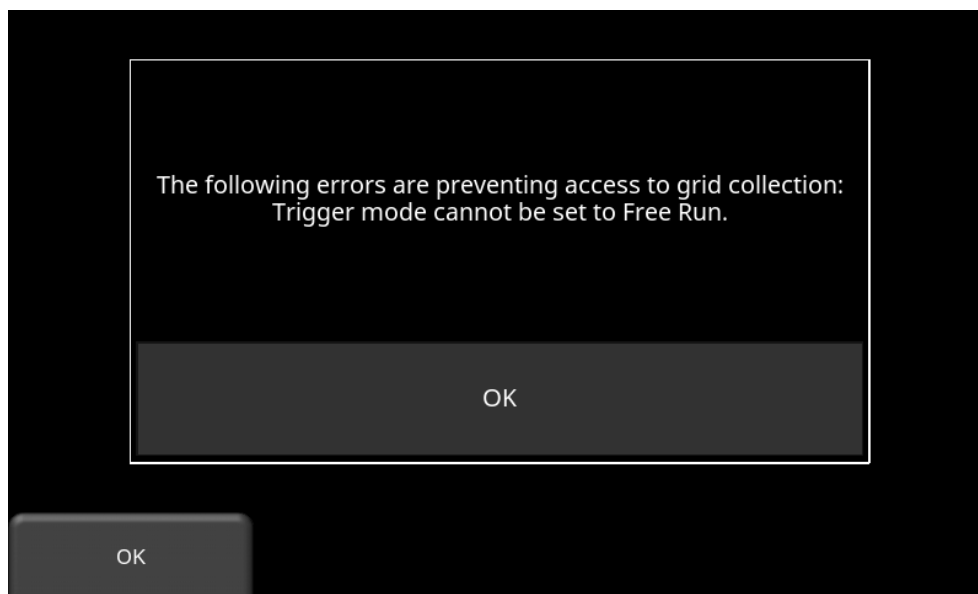

Figure 7-6: Error message when trying to start Grid collection with Trigger set to Free Run
**Note:** You cannot collect a grid in Free Run mode. If you attempt to start a grid with Trigger set to Free Run, you will get the error shown in Figure 7-6.